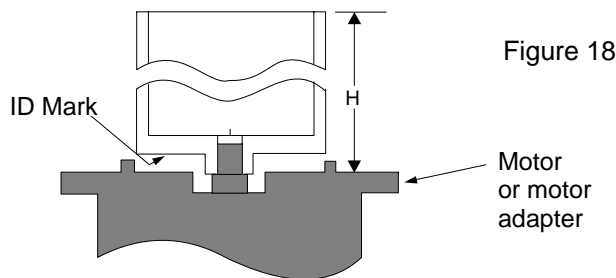

Figure 18
4. Use the following table [Fig. 18] for correct placement of the drive magnet.
5. Mount and bolt the frame (19) to the motor.
6. Mount and secure the drive magnet (232) to the motor shaft. [Fig. 18] *Note: Use Loctite 242 (thread locker) and torque the set screws to 8.9 ft-lbs (12 Nm).